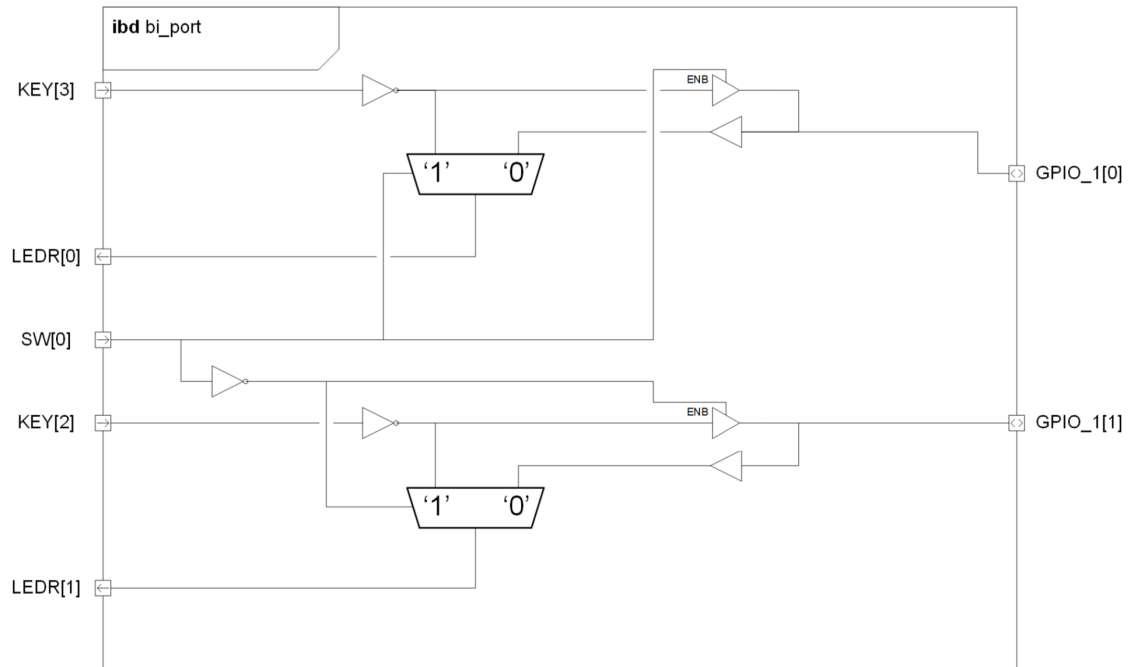

Fig. 4: Bi port IBD.
The design that you must implement is illustrated in figure 4. This illustration also shows the switches and LEDs to be used on the DE-2 board.
- a) Create a component with an interface as shown in source code table 2 and implement the function illustrated in figure 4. (Can be implemented by 6-lines of dataflow-style code!!)